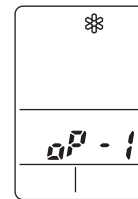

Fig. 30
- d) ✻ appears and "oP-1" blinking in the remote controller clock display area. (Fig. 30)